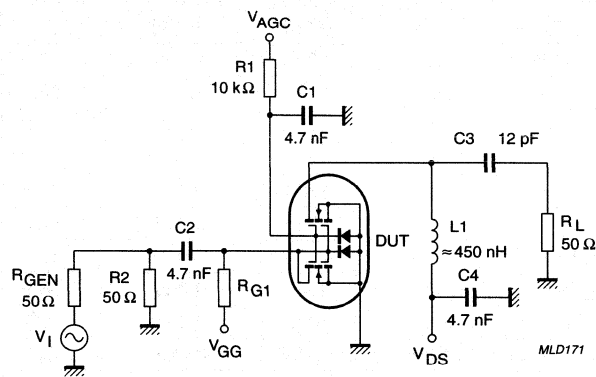

Fig.23 Cross-modulation test set-up.
- R_{G1} connects gate 1 to $V_{GG} = 5\text{ V}$; see Fig.23.